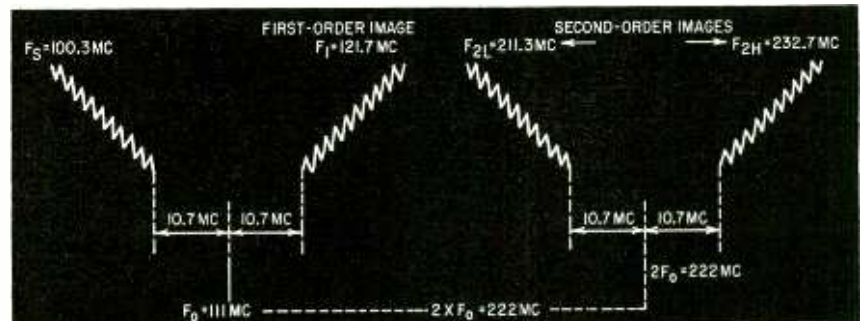

Fig. 3—Relationship of signal frequency, local-oscillator frequency with second harmonic, and first- and second-order image frequencies.
10.7 mc above the desired signal frequency, also generates harmonics or overtones. These are simple multiples of the fundamental frequency such as 2, 3, 4, 5, etc. times the fundamental frequency. Usually, only the second harmonic is strong enough to become a problem, although in some instances, third or fourth harmonics may cause difficulties. Taking into consideration only the second harmonic, we have the situation shown in Fig. 3.